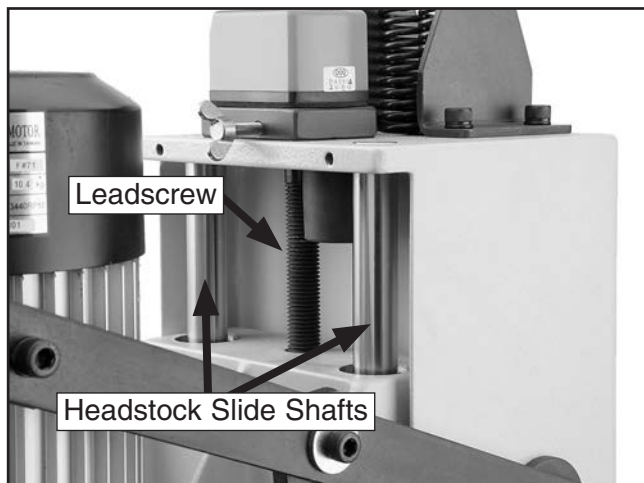

Figure 35. Headstock slide shafts and leadscrew.
3. Clean sawdust and debris from the visible sections of the headstock slide shafts and leadscrew (see **Figure 35**).